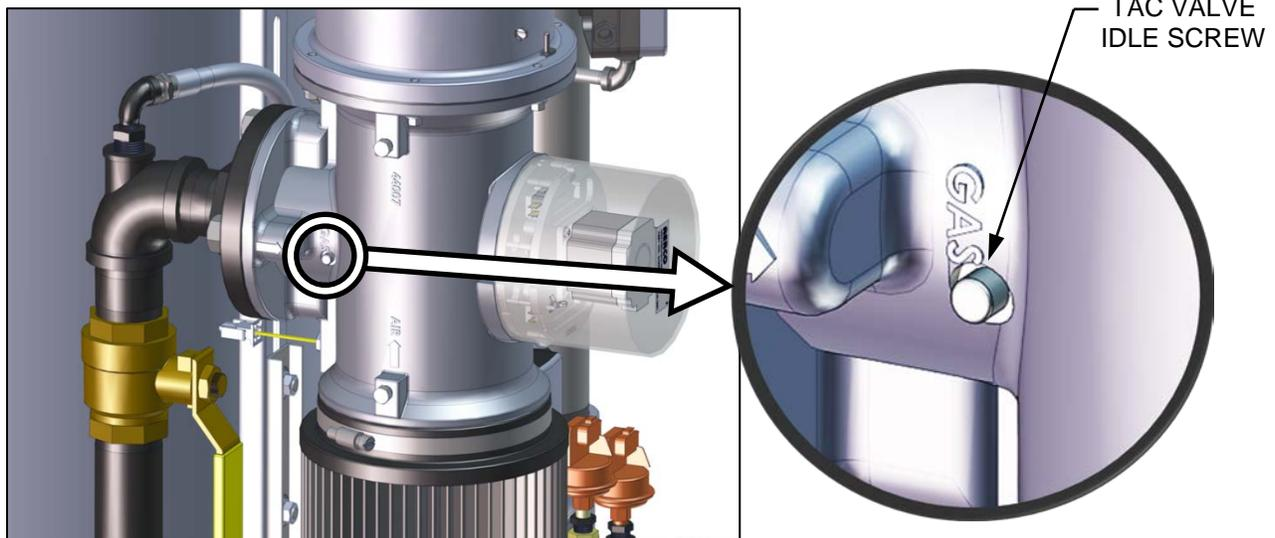

Figure 4-4: TAC Valve Adjust (Idle Screw)
29. If the oxygen level at the 18% valve position is too high and the Blower voltage is at the minimum value, you can adjust the idle screw (TAC valve) which is recessed in the top of the Air/Fuel Valve (see Figure 4-4). Rotate the screw 1/2 turn clockwise (CW) to add fuel and reduce the O₂ to the specified level. Recalibration **MUST** be performed again from 65% down to 18% after making a change to the idle screw (TAC valve).
28. If the oxygen level at the 18% valve position is too high and the Blower voltage is at the minimum value, you can adjust the idle screw (TAC valve) which is recessed in the top of the Air/Fuel Valve (see Figure 4-4, above). Rotate the screw 1/2 turn clockwise (CW) to add fuel and reduce the O₂ to the specified level. Recalibration **MUST** be performed again from **45%** down to **18%** after making a change to the idle screw (TAC valve).